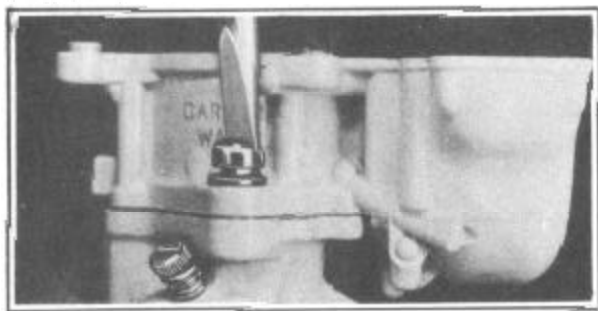

FIGURE 35
9. Assemble body and body flange assembly, Figure 35. Install screws and lock-washers. Pull screws down evenly.